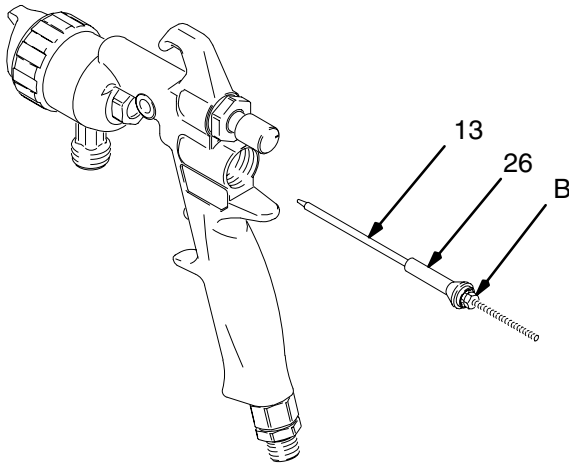

Fig. 32
27. Slide the insert (4) into the spray housing (2a), and install them onto the gun body (1). Align the housing with the slot and lip (A) on the gun body (1).
28. Tighten the hex nut (9) onto the insert (4) hand-tight, then loosen the nut about one turn so the insert (4) and spray housing sit loosely in the gun body.
29. Check the fluid needle (13) for damage or excessive wear. Replace needle tip or entire needle if necessary.
30. Lubricate the outside of the new air valve assembly (26) and place it on the fluid needle (13), against the nut (B). See Fig. 32. This helps align the entrance of the air valve stem into the inside diameter of the u-cup (16) without damaging the u-cup lip.
31. Install the fluid needle (13) and the air valve assembly (26) into the back of the gun.